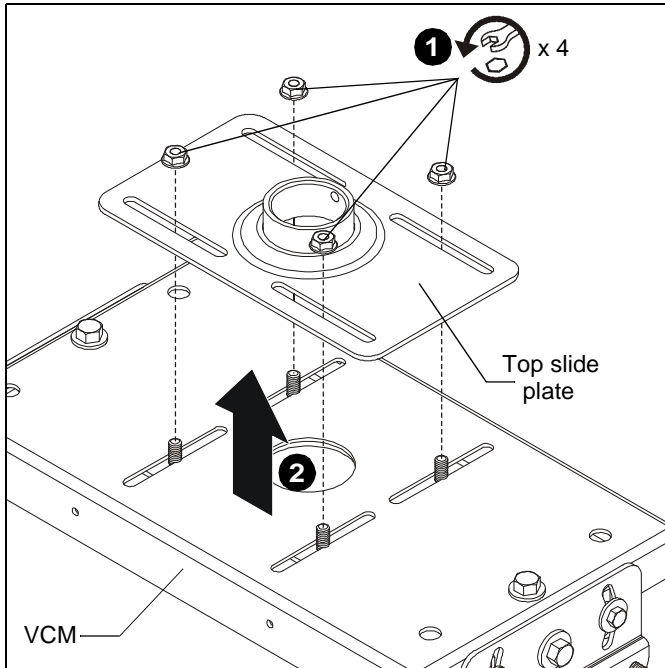

Figure 1
1. Remove and **SAVE** four nuts from top of VCM mount (not included). (See Figure 1)
2. Remove and discard top slide plate. (See Figure 1)